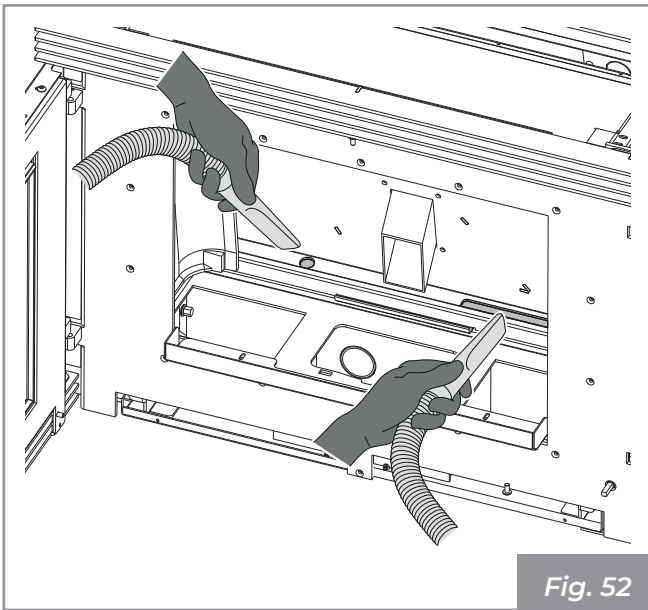

Fig. 52
- Remove the ash in the area indicated in (Fig. 52).